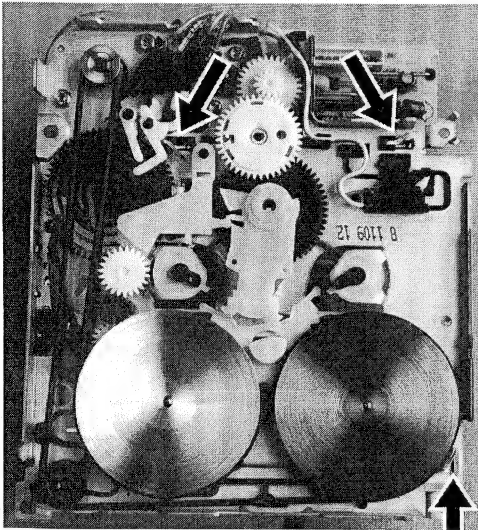

Figure 16
- First remove the cassette loading assy pos. 50 by bending the three lips of the assy in straight position, lifting it at the front and sliding it out carefully. See figure 16.
- Take out gear rod pos. 54.
- Remove fixation retaining ring pos. 6.
- Take out lift wheel gear pos. 68.